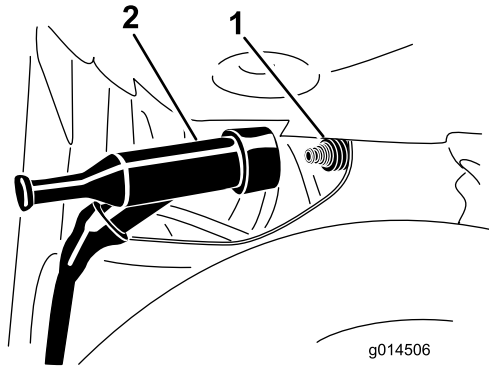

Figure 14
2. Pull the wire off of the spark plug (Figure 14).